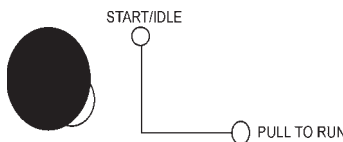

Figure 53. Engine Throttle Control Lever
2. Turn and push the engine throttle control lever (Figure 53) to the idle (low) position.